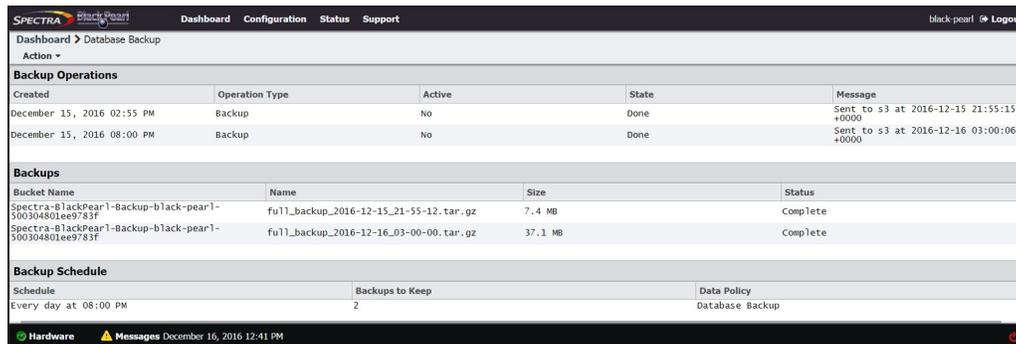

Figure 198 The Database Backup screen.
1. From the menu bar, select **Configuration > Database Backup**. The Database Backup screen displays (see Figure 198 on page 276).
- From the menu bar, select **Configuration > Database Backup**. The Database Backup screen displays (see Figure 198 on page 276).